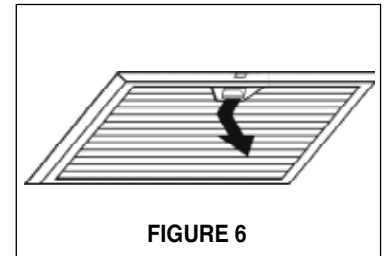

FIGURE 6
1. Remove the grease filters from the unit by pressing the handle in front of the filter (**FIGURE 6**). When replacing make sure that the filters are properly positioned with the handles in front and visible.